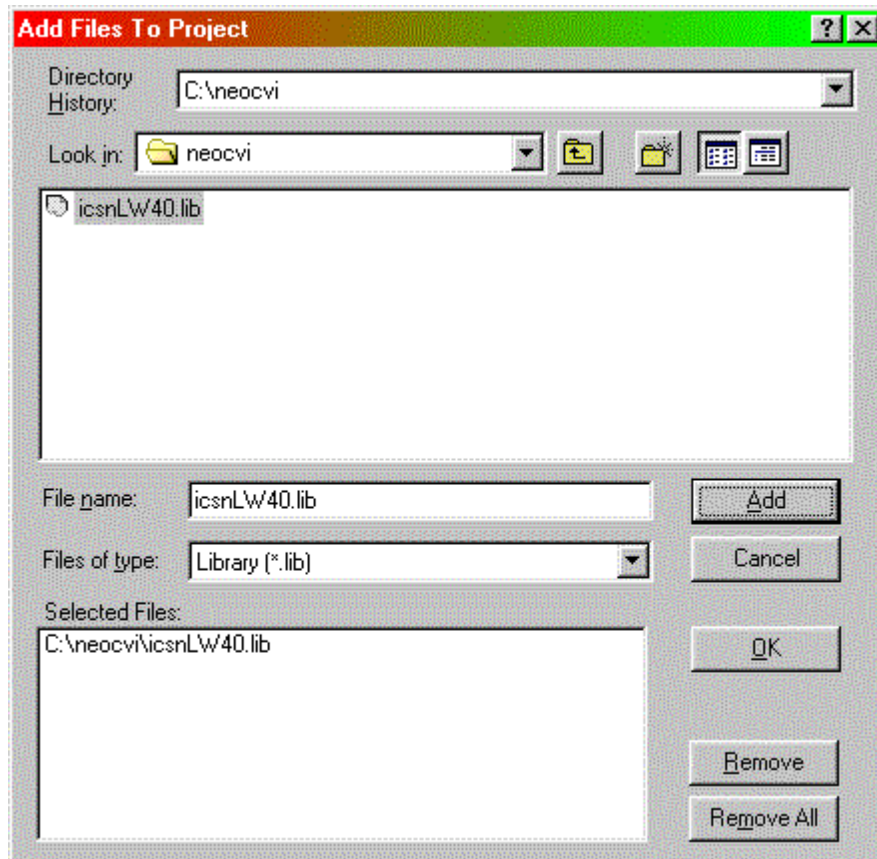

Figure 1 - Link to the "icsnLW40.lib"
2) Link to icsnLW40.lib import library by selecting Add Files To Project from the Edit pull down menu. In the "Add Files To Project" dialog select the icsnLW40.lib file (figure 1). You can also the headers from step 1 if you wish. Your project should now list the files you added (figure 2).